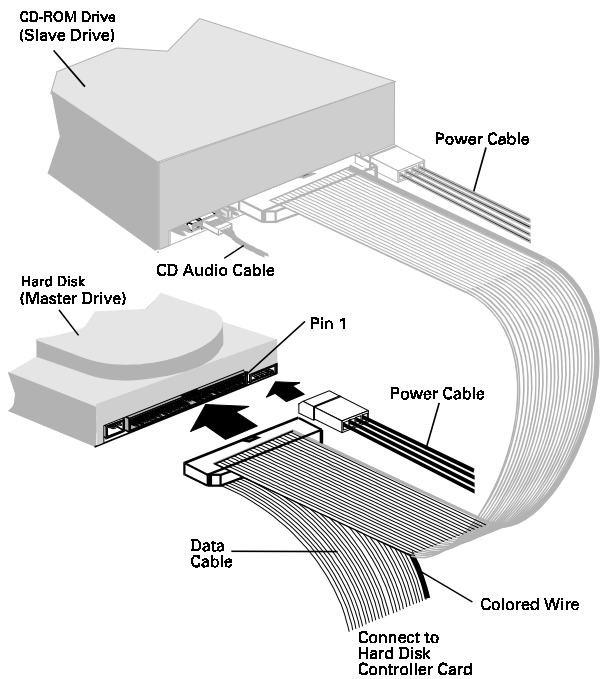

Figure 2-20: Connecting data cable to your hard disk.
2. Connect the power and data cables to your hard disk as shown in Figure 2-20. Make sure you align the colored wire on the cable to Pin 1 of your Hard Disk Data Connector.